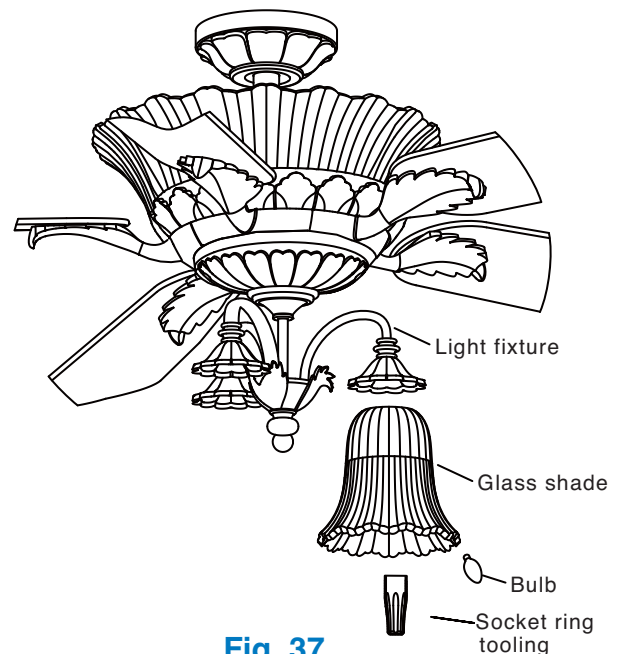

Fig. 37
Step 5. Remove the Socket Nut from each of the lamp sockets. Place a glass shade over a socket and replace the socket nut using the plastic socket nut tool provided. Repeat for each socket. Finally install the proper size and wattage lamps (provided). Refer to Fig. 37.